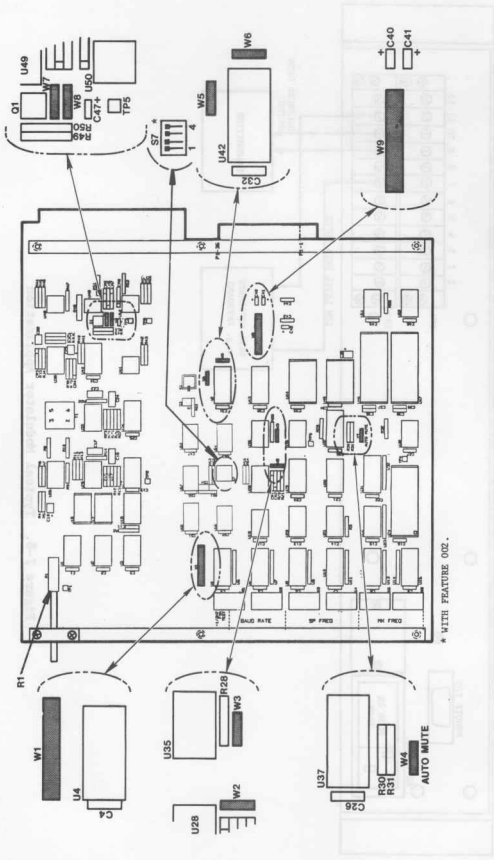

Figure 2-7. Expanded View of Modulator Board
Switch S7 (Figure 2-7) is a four position switch that allows an operator to select a specified time delay prior to going into the auto-mute and keyline enable condition after a loss of data transitions. Switch slides 3 and 4 provide control data to the down-counter and slides 1 and 2 provide a count to the down-counter's C/D input. Either slide 1 or 2 must be selected (to enable auto-mute and keyline output), but both may not be selected at the same time. To select the auto-mute thresholds, program switch S7 as indicated below. Thresholds are specified in seconds.
2.7.3.2 PWB JUMPERS. The following jumpers, as shown in Figure 2-7 will yield the indicated results.